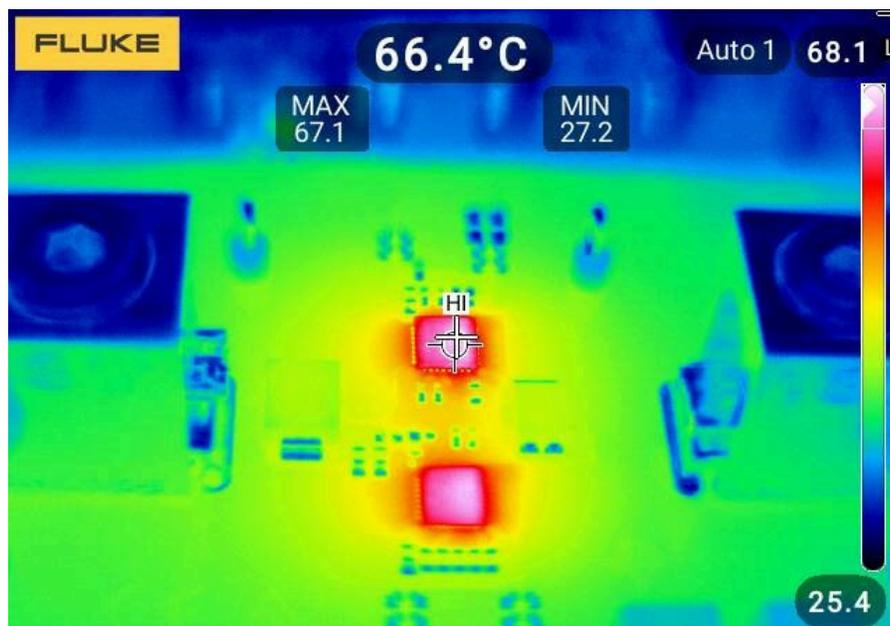

Figure 5-18. Thermal Performance in TPS25990EVM ($V_{IN} = 12$ V, $R_{IMON} = 0.91 \parallel 1.1$ k Ω , $V_{IREF} = 1.13$ V, and $I_{OUT} = 110$ A)
Figure 5-18 shows the thermal performance of TPS25990EVM with one (1) TPS25990 eFuse and one (1) TPS25985 eFuse in parallel.